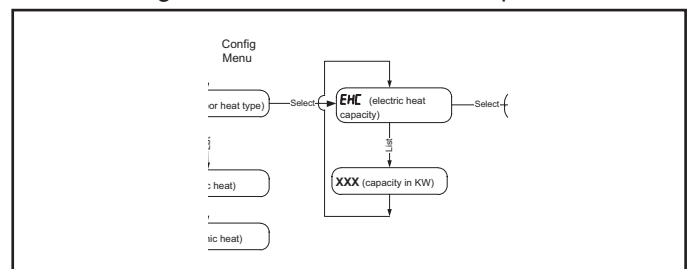

Figure 7 - Configuration Menu
1. Check the unit heater label to confirm that the selected Heater is approved for use with this unit in the installed configuration. For some heaters, a corresponding secondary nameplate label is included. Place the label within the heater data table on the air handler nameplate. This is shown in Figure 7.